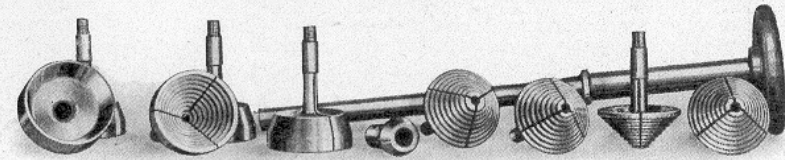

Fig. 7.
2. Ring and disc chucks with drawbar (Fig. 7). These are available from $\frac{1}{2}$ in. to $2\frac{1}{2}$ in., rising by $\frac{1}{16}$ in.